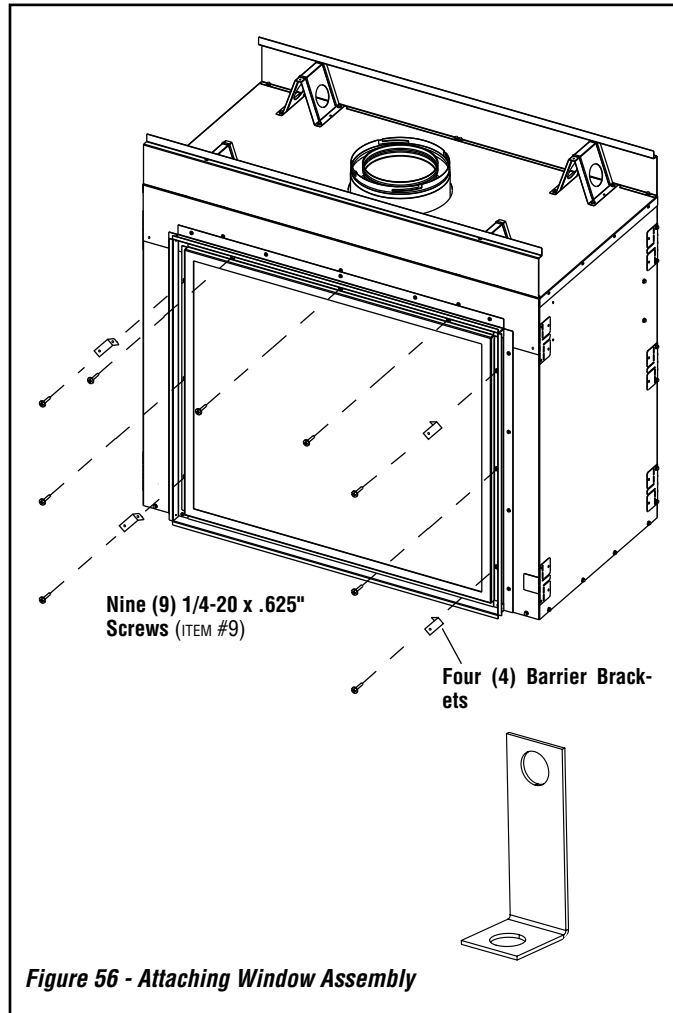

Figure 56 - Attaching Window Assembly
7. Seat the lower edge of the **Window Assembly** (ITEM #1) in the **Track** in the **Window Support** (see **Figure 55**), and then swing it up into position, as shown in **Figure 56**.
8. Insert the nine (9) provided **1/4-20 x .625" Screws** (ITEM #10) around three sides of the **Window Assembly**, as shown in **Figure 56**. Install **4 Barrier Brackets** under screws as shown in **Figure 56**.